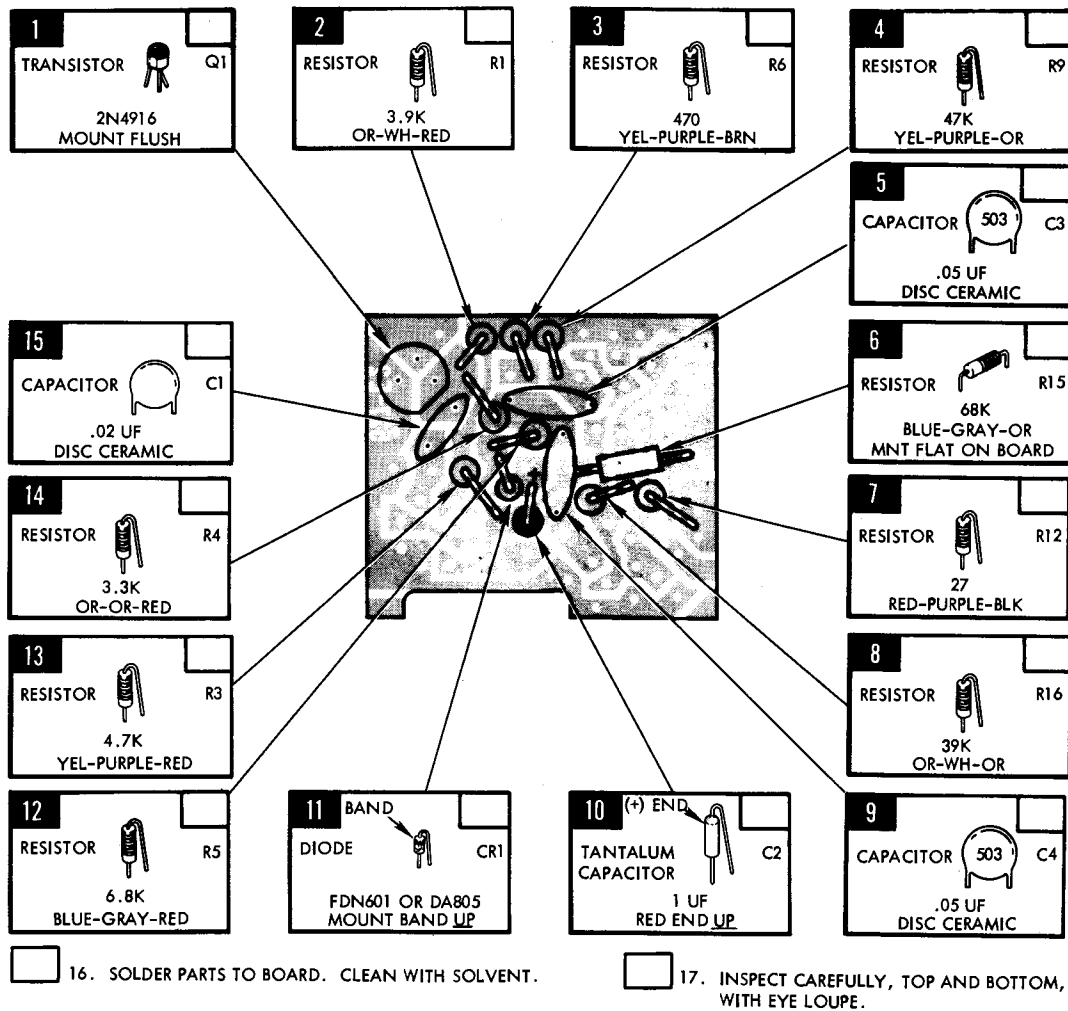
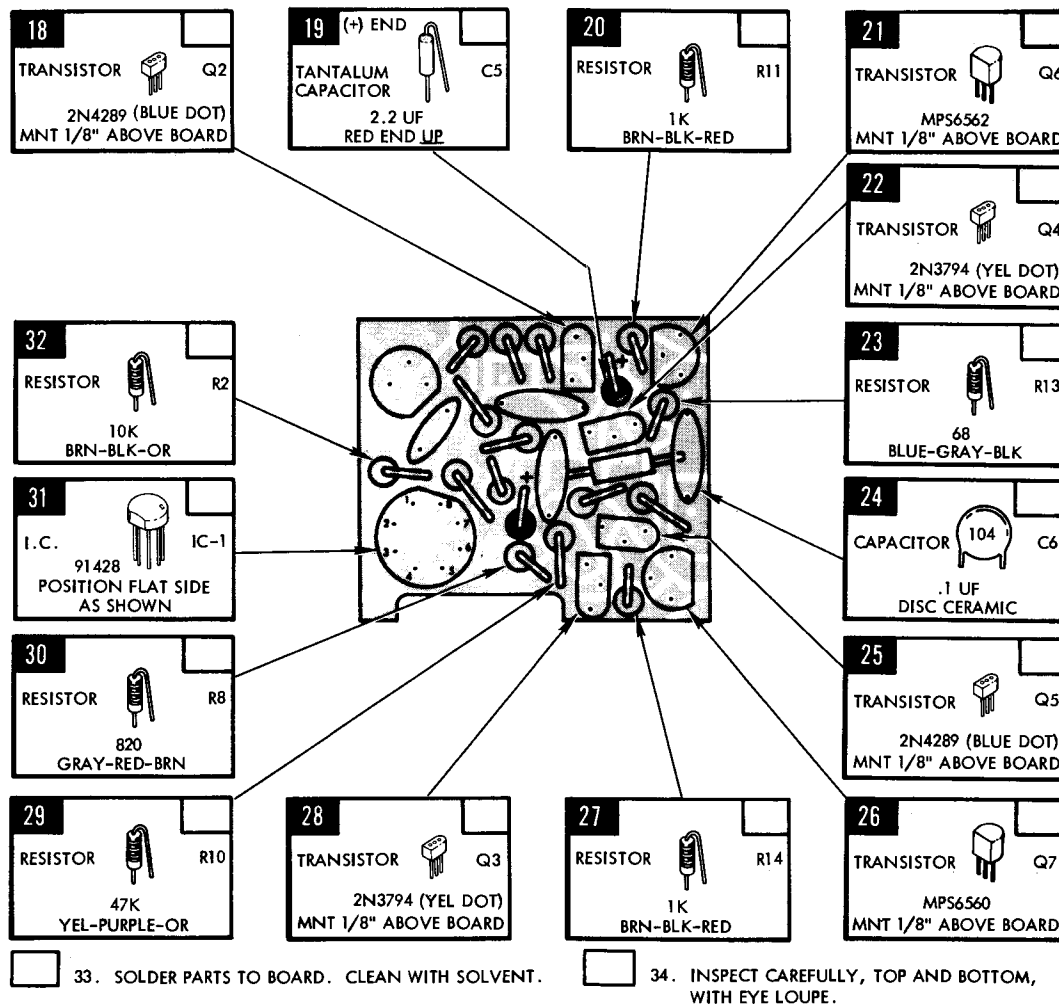

Figure 3. Assembly of P.C. Board (Sheet 1 of 2)
Figure 4. Assembly of P.C. Board (Sheet 2 of 2)
a. Position printed circuit board, metal side down, so that hole arrangement corresponds with layout in figure 3. Proceed with steps 1 through 17, then repeat process with steps 18 through 34, figure 4. Omit steps 1 through 34 on Half-Kits.